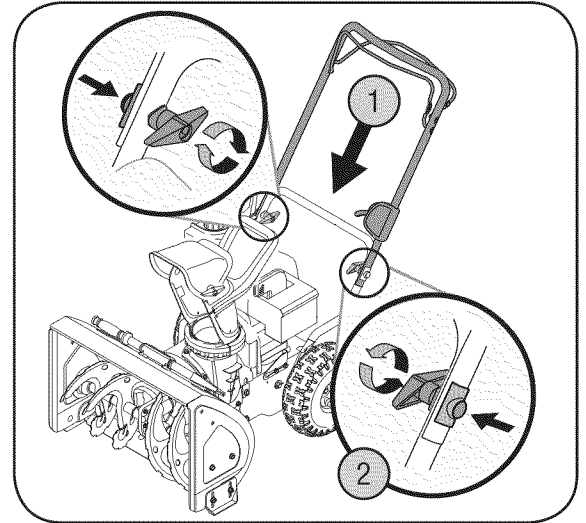

Figure 2
2. Lift the upper handle up and position it over the lower handle, aligning the holes where the wing knobs were removed. See Step 1 in Figure 2.
5. Tighten the wing knobs on each side of the handle. Refer to Step 2 in Figure 2.